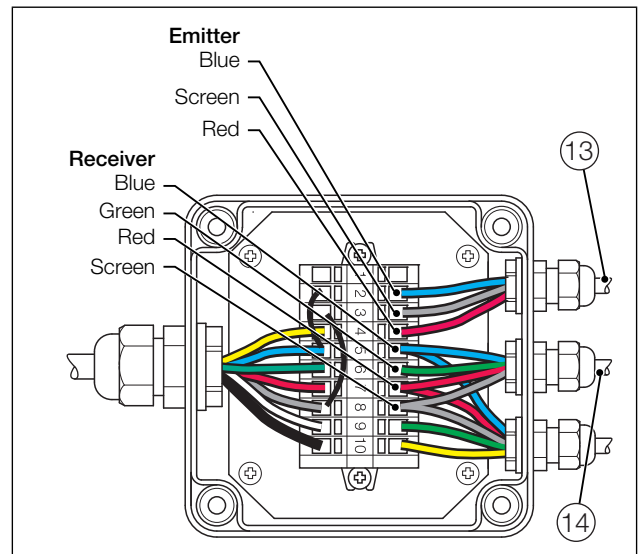

Fig. 4.3 Emitter and receiver module connections
4. Referring to Fig. 4.3:
- a. Route emitter module cable (13) or receiver module cable (14) through the terminal box cable gland.